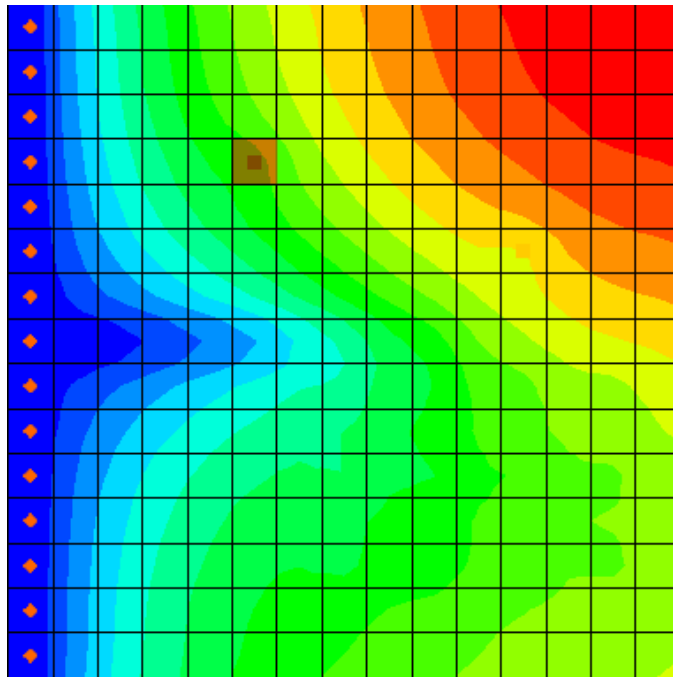

Figure 6 The well cell to select
2. Using the **Select Cells**  tool, right-click on the well cell in the upper left (*IJK* :4, 6, 2), and select **Sources/Sinks...** to bring up the *MODFLOW Sources/Sinks* dialog. (Figure 6)